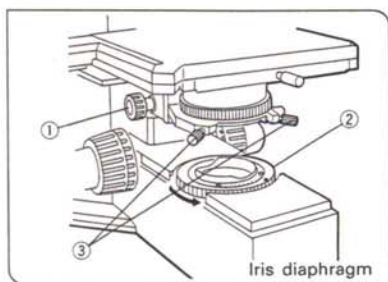

Fig. 34
(Figs. 34,35,36,37)
1. Turn the condenser height adjustment knob ① and raise the condenser to its upper limit. (Fig. 34)
3. Rotate the field iris diaphragm ring ② in the direction of the arrow to reduce the aperture.
4. Turn the condenser height adjustment knob ① to where the image of the iris diaphragm is visible in sharp focus.
5. Turn the two condenser centering screws ③ to move the image of the field iris diaphragm to the center of the field of view.